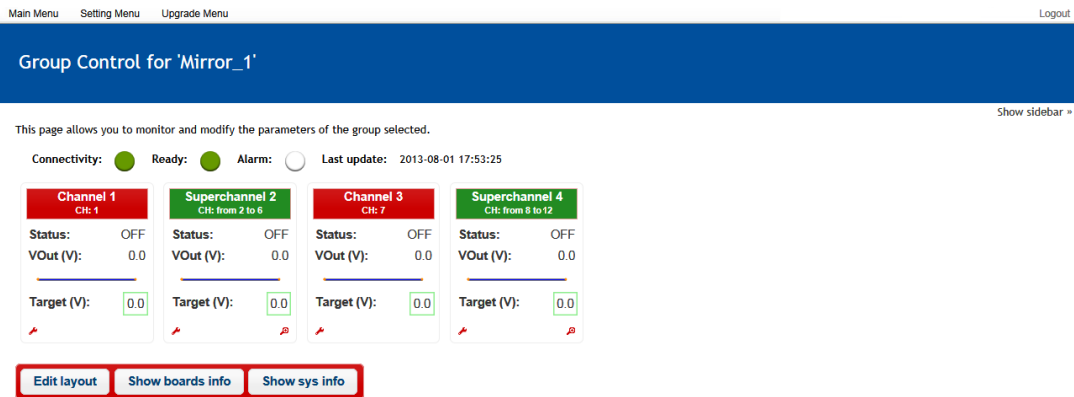

Figure 19: screenshot of the channels information
Each channel of the group has a box that contains certain information, as shown in **Figure 19**:
- **VOut (V):** indicates the channel output voltage;
- **Target (V):** indicates the target voltage set for this channel. A **GREEN** line bordering the voltage value, as shown in all channels and superchannels of **Figure 19**, indicates that the one displayed is the voltage effectively set on that channel while a **RED** line border means that the voltage set to that channel is not compliant with the voltages set on the adjacent channels. In this last case – i.e. **RED** border – the “Set All Target” option will be automatically disabled. All this information is shown in the interface by means of a *tooltip* that is displayed when stopping with the mouse cursor over the voltage value.